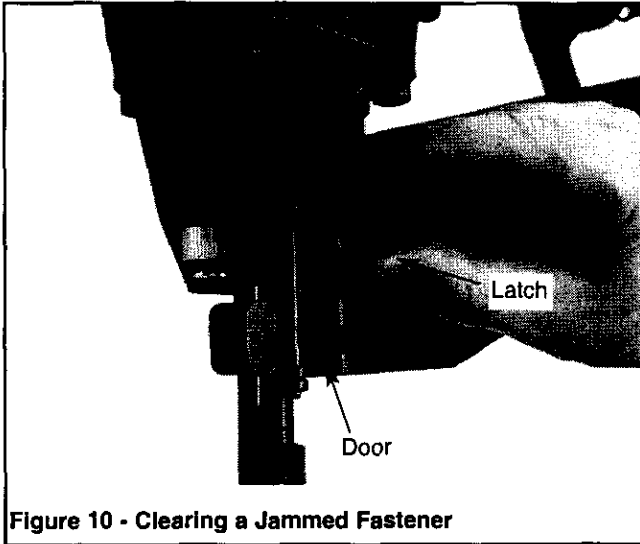

Figure 10 - Clearing a Jammed Fastener
- Press up on latch and open door (see Figure 10).